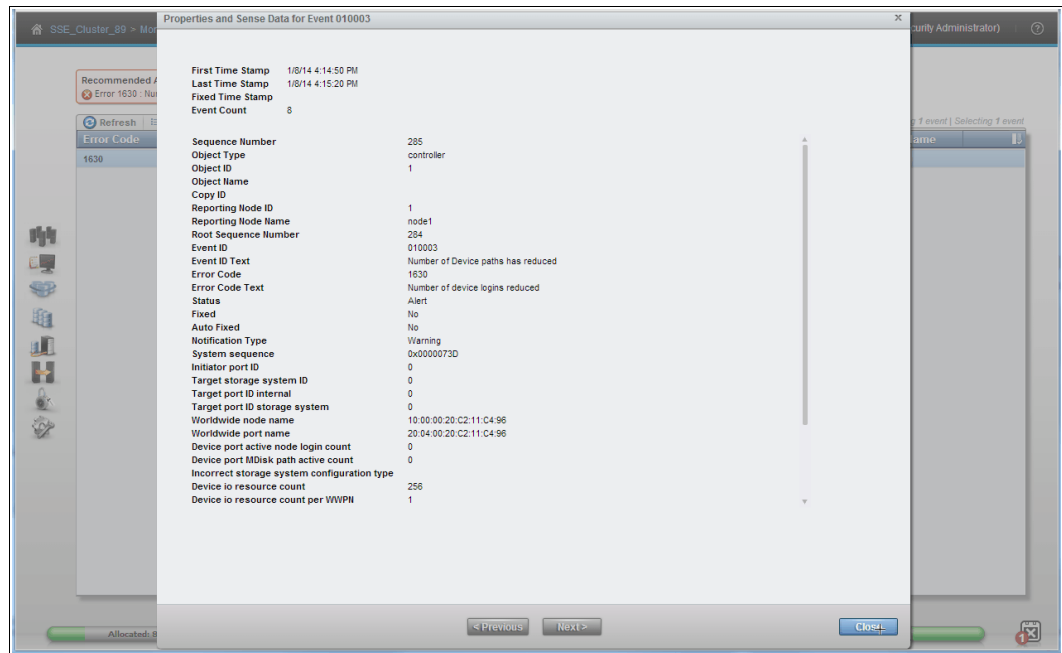

Figure 15-17 Properties and sense data for event window
3. In the Properties and Sense Data for Event sequence_number window (see Figure 15-17, where sequence_number is the sequence number of the event that you selected in the previous step), review the information. Then, click **Close**.